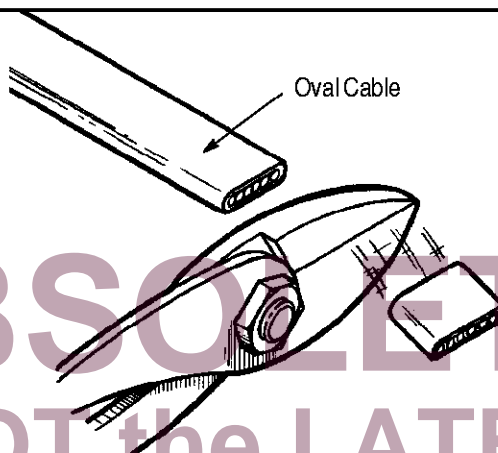

Figure 3
1. Trim cable end flush. See Figure 3.